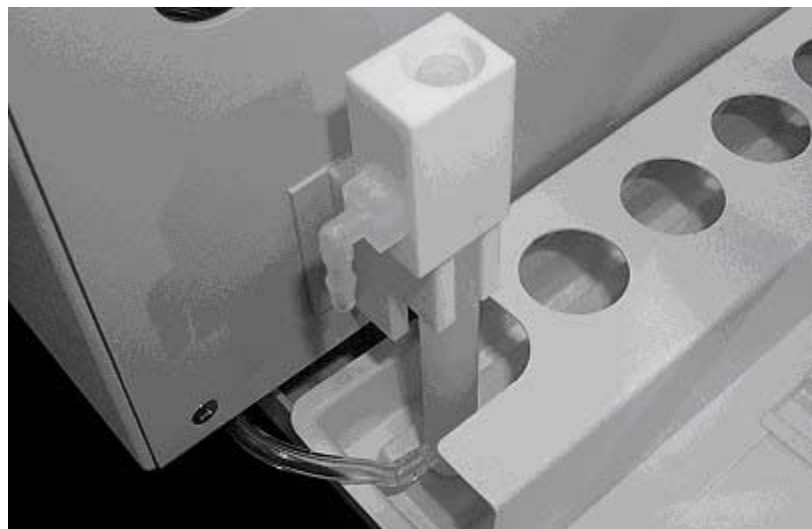

**Figure 1-2.** View of Y- axis home block with Kynar thumbscrews.
1. First, remove the two Kynar thumbscrews from the Y-axis home block. See Figure 1-2.